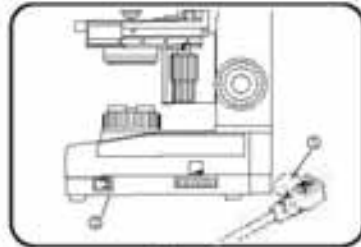

Fig. 2
1. Before replacing the lamp bulb, be sure to set the main switch ② to (OFF), unplug the power cord from the power outlet and wait until the lamp and its surroundings have cooled down fully. (Fig. 2)
2. Before replacing fuse ① F, 250V/750mA be sure the main switch remain OFF & unplug the power cord ③ from the power outlet. Open the fuse socket from power outlet by means of sharp edge pen or pencil from the top and replace the fuse.